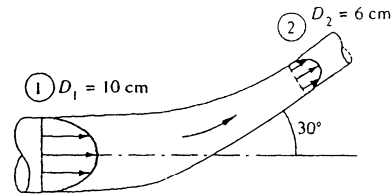

Fig. P3.39
3.39 For the elbow duct in Fig. P3.39, SAE 30 oil at 20°C enters section 1 at 350 N/s, where the flow is laminar, and exits at section 2, where the flow is turbulent: